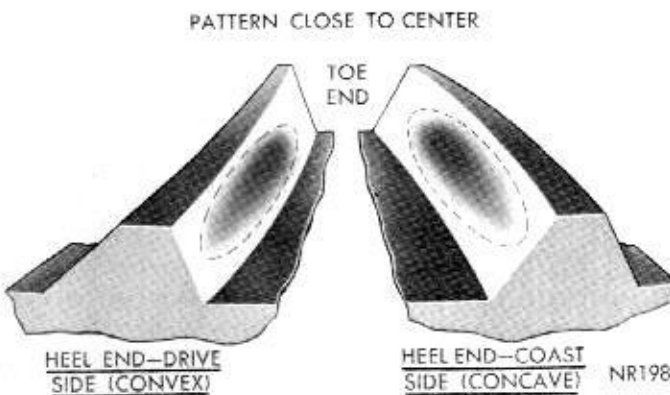

Fig. 44—Desired Tooth Contact Under Light Load
(1) Apply a thin film of red or white lead on both the drive and coast side of the drive gear teeth. Rotate drive gear one complete revolution in both directions while load is being applied with a round bar or screwdriver between the carrier casting and differential case flange. This action will leave a distinct contact pattern on both the drive and coast side of the drive gear teeth.
(2) Observe the contact pattern on the drive gear teeth and compare with those in figures 44, 45 and 47 to determine if pattern is properly located. With pinion depth of mesh and gear backlash set properly, your contact pattern should resemble that in (Fig. 44). Notice that the correct contact pattern is well centered on both drive and coast sides of the teeth. When tooth contact patterns are obtained by hand, they are apt to be rather small. Under the actual operating load, however, the contact area increases.